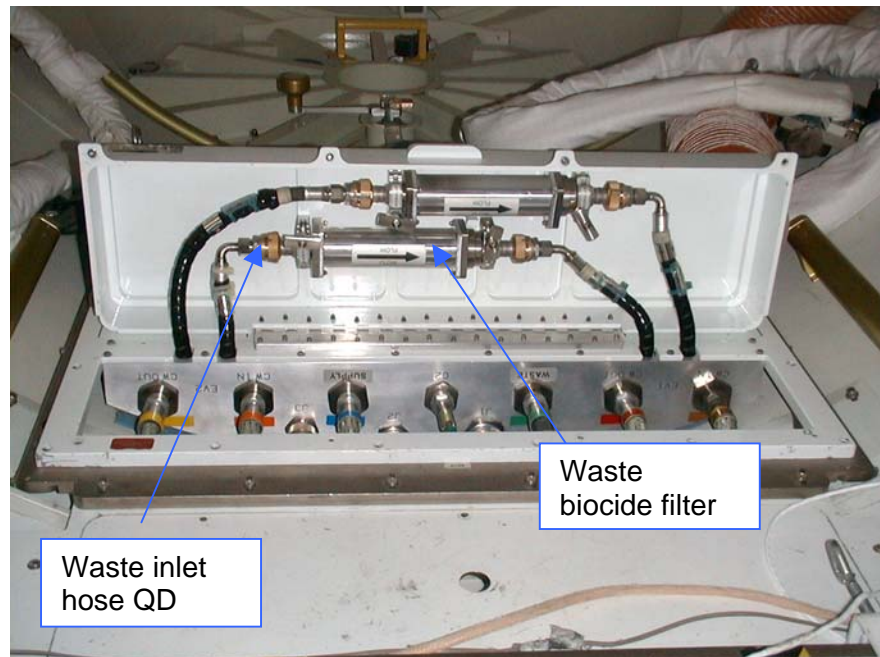

Figure 1.- UIA Filters and Hoses.
2. Refer to Figure 1 for UIA Waste biocide filter location and attachment configuration.